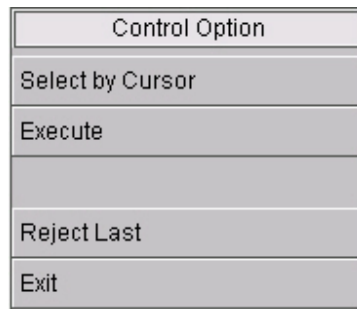

Figure 7.11.1 Select Line Control Option Window
- The Control Option Window is shown as in Figure 7.11.1. Click SELECT BY CURSOR to select trim line(s).